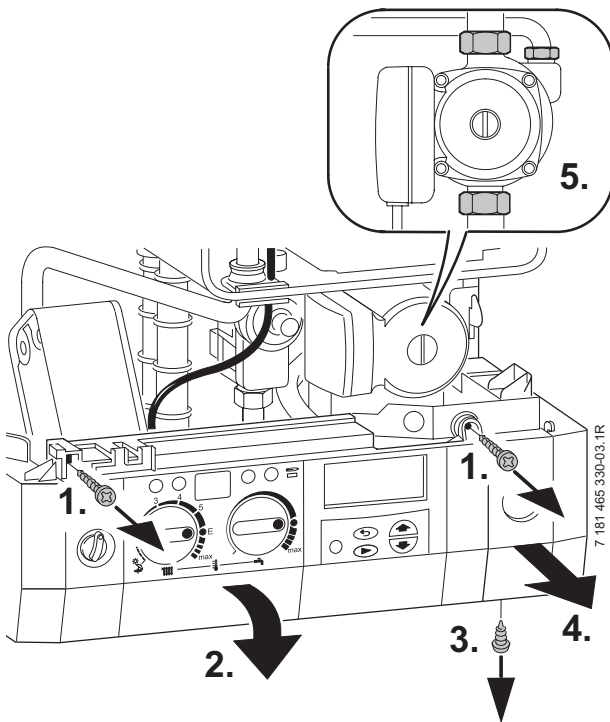

Fig. 58
- Remove two switchbox fixing screws (1.). Refer to fig. 58.
- Unscrew the pump union nuts (5.). Refer to fig. 58.
- ▶ Lower the control panel. Refer to fig. 58.
- ▶ Lower the facia. Refer to fig. 58.